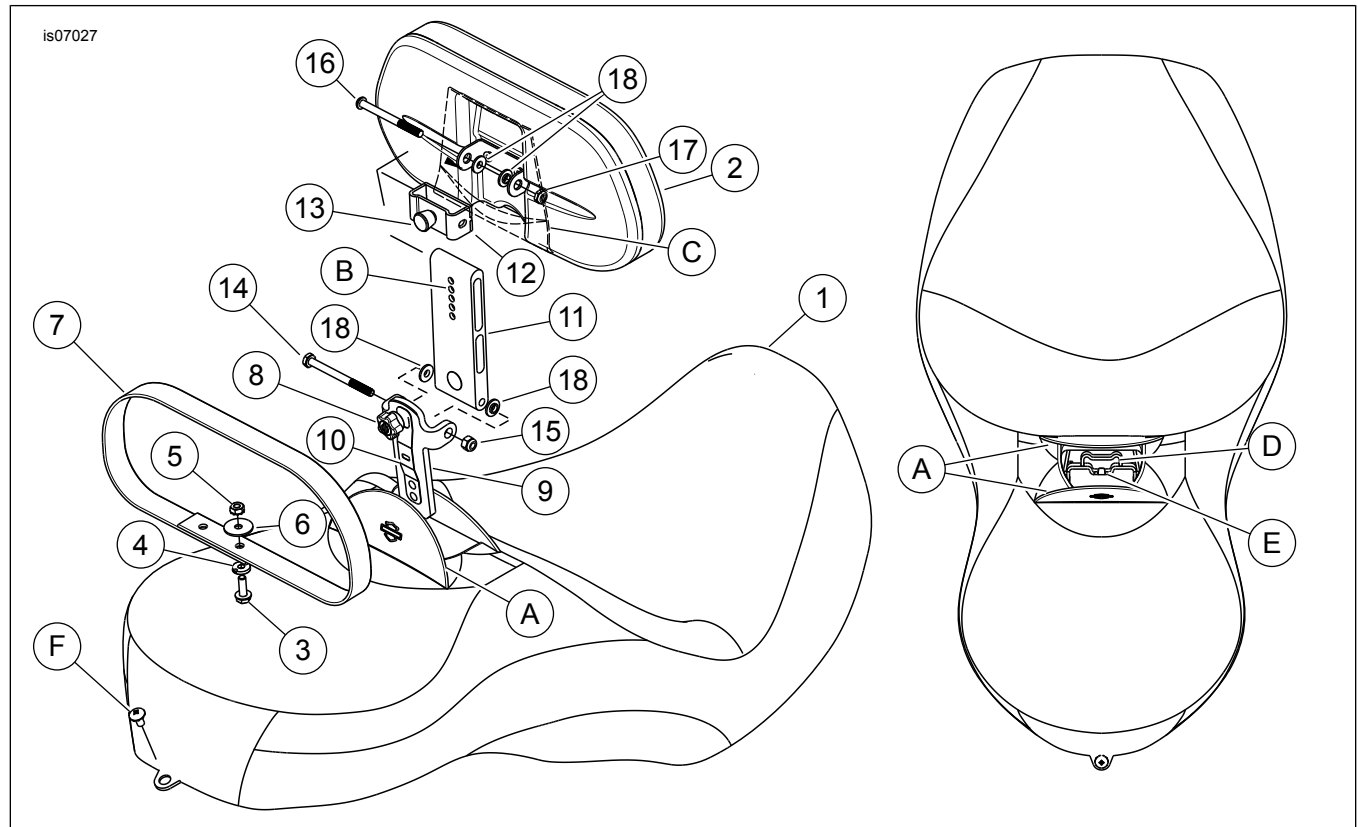

Figure 5. Service Parts: Dyna Seat with Rider Backrest Kit
See Figure 5 and Table 1.
- See Figure 5. Secure seat with stock screw (F).
- See Figure 5. Open hook-and-loop flaps (A) on seat (1).
- Insert backrest assembly (2), with pad facing forward, into slot (D) under the flaps.
- Insert until spring (10) engages tab (E) inside seat and locks the backrest in place.
- See Figure 5. Lift the flap (C) on the back of the backrest (2) and expose the spring-pin bracket (12).
- Pull the spring pin (13) at the back of the backrest and adjust the backrest to the desired height.
- Release the spring pin and verify that it locks into place in one of the positioning holes (B).
See Figure 5. The backrest can be folded forward to allow for easier mounting and dismounting of the motorcycle.
- See Figure 5. Open hook-and-loop flaps (A) on seat.
- Press the spring (10) against the backrest bracket (9) until the spring disengages retention tab (E).